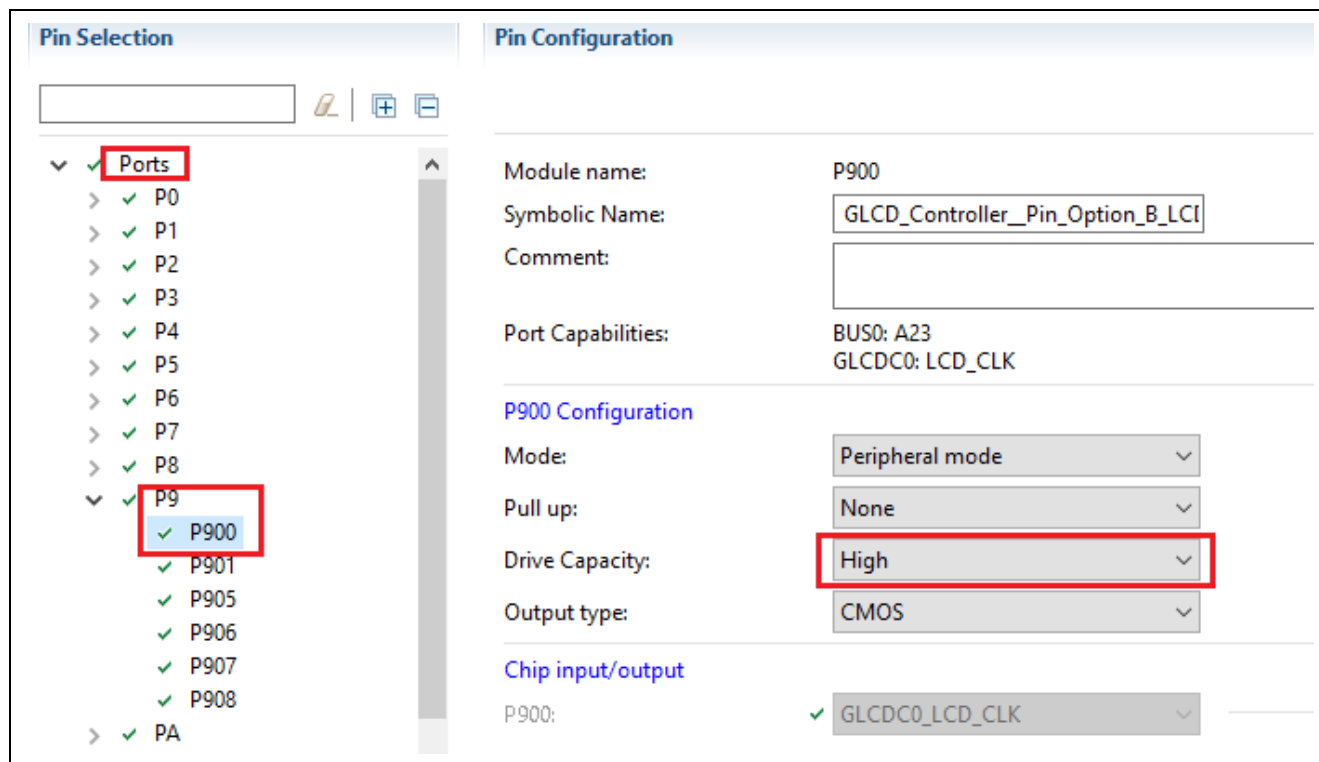
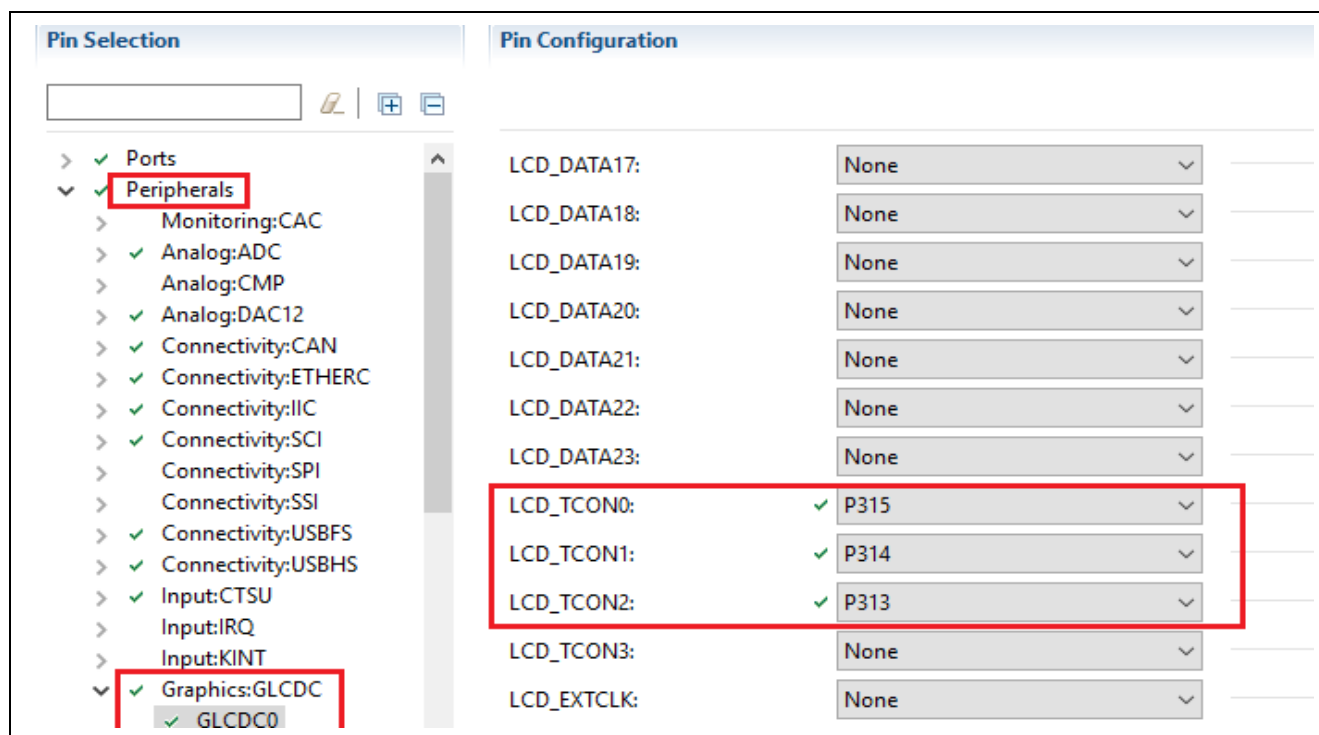

Figure 56. Example of Drive Capability configuration for GLCDC
Figure 58. Pin assignment for GLCD\_Controller\_Pin\_Option\_B (continued)
37. Configure **Drive Capacity** into **High** for all pins related to **GLCD\_Controller\_Pin\_Option\_B** as shown in Figure 56.
- A. You can confirm which pins would be used for **GLCD\_Controller\_Pin\_Option\_B** by referring to Figure 56 through Figure 58.